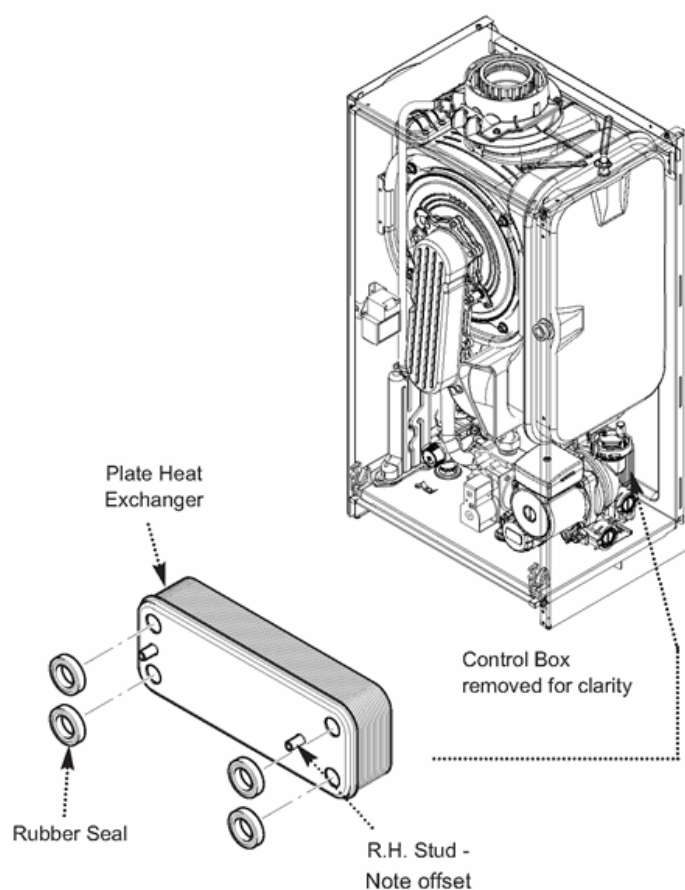

Fig. 62
10.3.16 Plate Heat Exchanger (Fig. 62 & 63)
7. When fitting the new heat exchanger note that the right hand location stud is offset towards the centre (Fig. 62).